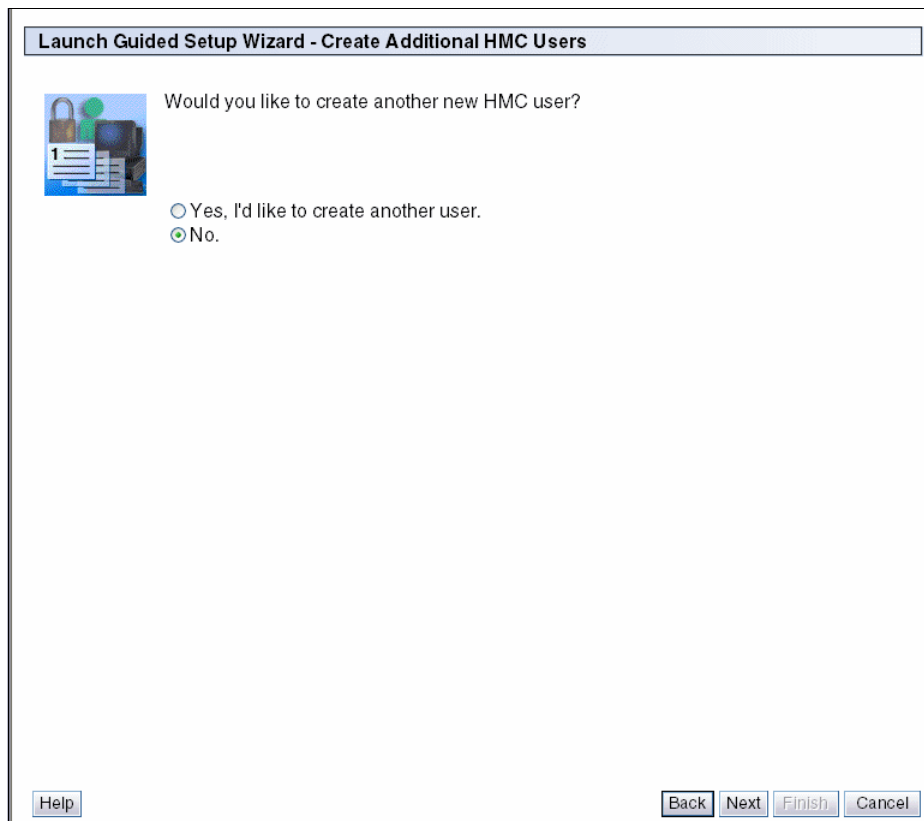

Figure 3-15 Launch Guided Setup Wizard - Create Additional HMC Users
8. The Launch Guided Setup Wizard - Create Additional HMC Users panel displays (see Figure 3-15). If you want to create more users, then select **Yes**, otherwise select **No** and click **Next** to continue with the Guided Setup Wizard.